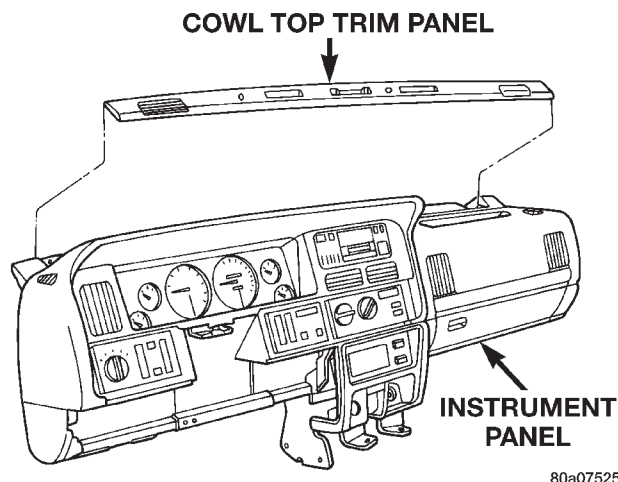

Fig. 22 Cowl Top Trim Remove/Install
(1) Disconnect and isolate the battery negative cable.
(2) Using a trim stick or another suitable wide flat-bladed tool, gently pry the cowl top trim panel off of the instrument panel top pad (Fig. 22).
(3) Pull the trim panel up far enough to access and unplug the wire harness connector for the solar sensor, or to remove the solar sensor from the cowl top trim, if the vehicle is so equipped.
(4) Remove the cowl top trim panel from the instrument panel.
(5) Reverse the removal procedures to install.